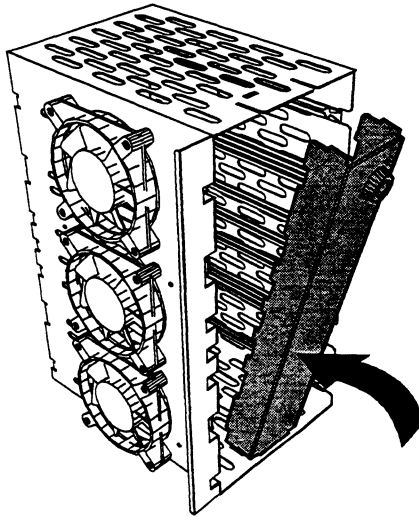

Figure 3-11 Sliding tabs into the matching notches
12. Tilt the lock up and slide the top two tabs into the matching notches at the top of the hot-swap drive cage, as shown in Figure 3-11. Make sure that the lock tabs are inserted all the way back in their notches.